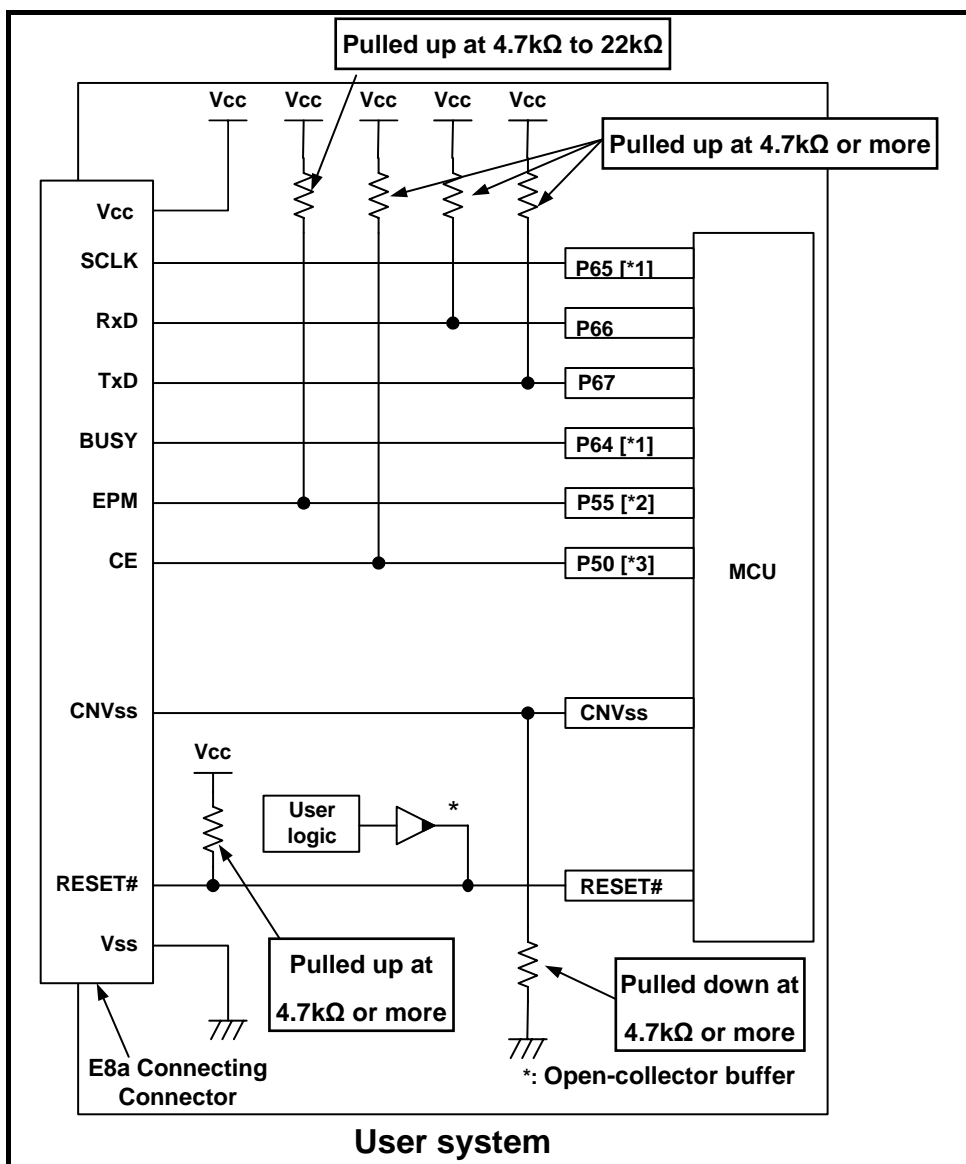

Figure 4.2 Example of an E8a Connection
- Single power supply and memory expansion mode: See Figure 4.2.